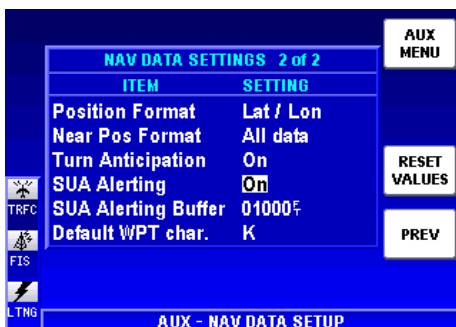

Figure 1-47
4. Press the **NEXT** Softkey to display Figure 1-47.